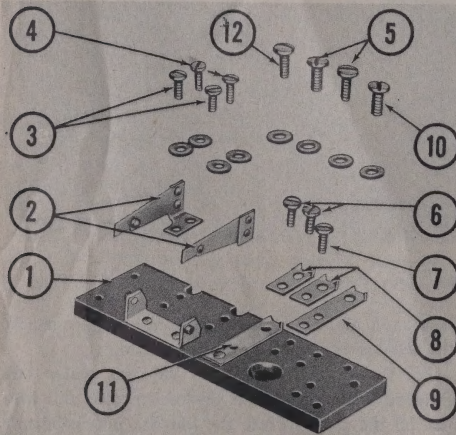

Figure 354 — Limit Switch Mounting Base Assembly
BASE ASSEMBLY. (See figure 354.)
(a) (See figure 354.)—Bring up the two long leads from the brake solenoids. Attach them both to the long terminal strip (9) on the right-hand side of the limit switch mounting base assembling with the 4-40 x 5/16-inch binding-head screw (7) and plain washer located on the end of the strip toward the clutch and differential housing assembly.
(b) (See figure 354.) Attach the short leads from the two brake solenoids to the covers of their respective solenoid housings with 4-40 x 1/4-inch binding-head screws and plain washers. These are the ground leads to the brake solenoid windings.